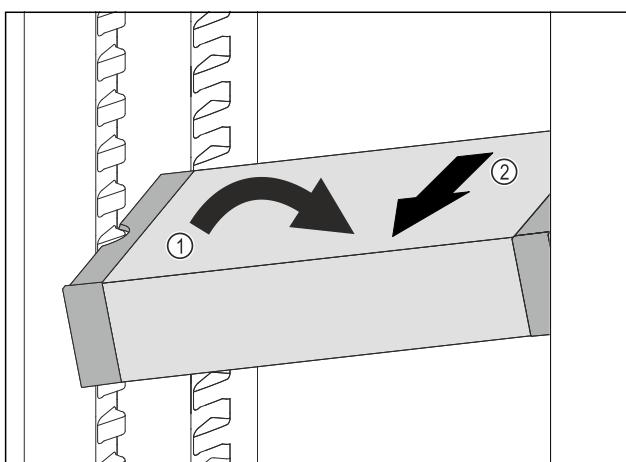

Fig. 94
- ▶ Set VarioSafe in refrigerator compartment at an angle. Fig. 94 (1)
- ▶ Take VarioSafe out to the front. Fig. 94 (2)